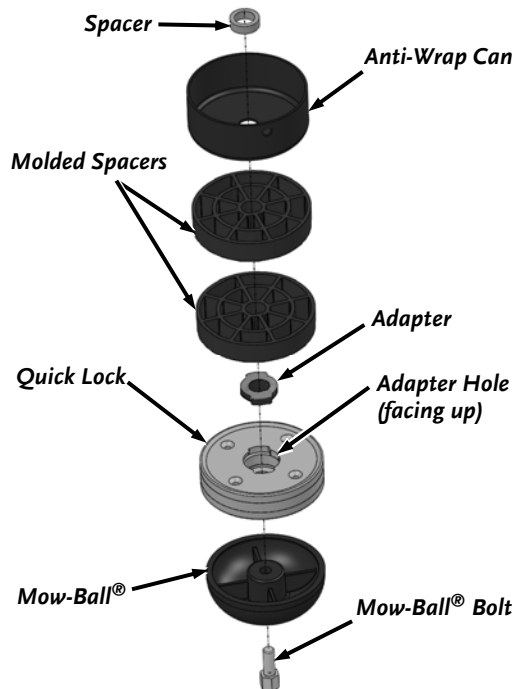

Figure 5. (All except 6.25 Tow-Behind Model)
**All models except 6.25 Tow-Behind** - Install the Molded Spacers, Quick Lock with Adapter hole and Adapter on top of Quick Lock onto the Shaft (Figure 5).